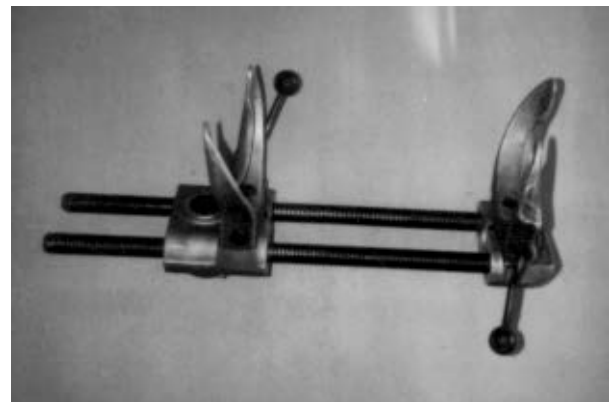

Figure 6
2. Compress a new coil spring (615 or 618) to 16" in length. Use a quality spring compressor like the one shown in figure 6.